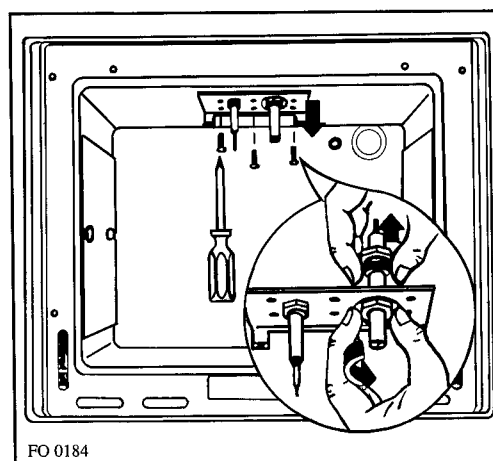

Fig. 7
b) Grill Electrode. (Fig. 7)
6. Remove 3 fixing screws from the FSD and electrode mounting plate. (Fig. 7)